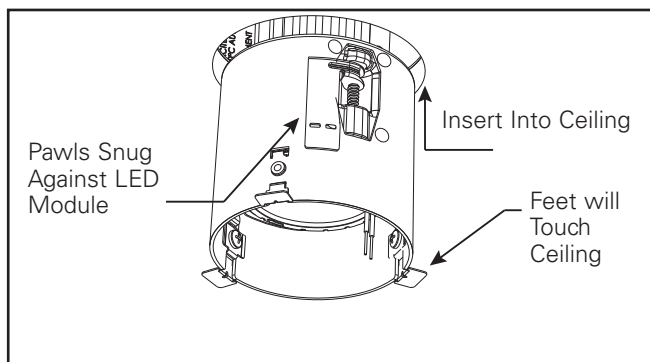

Figure 4
4. Make certain pawls are snug against the LED module prior to inserting the module into the ceiling (see figure 4).